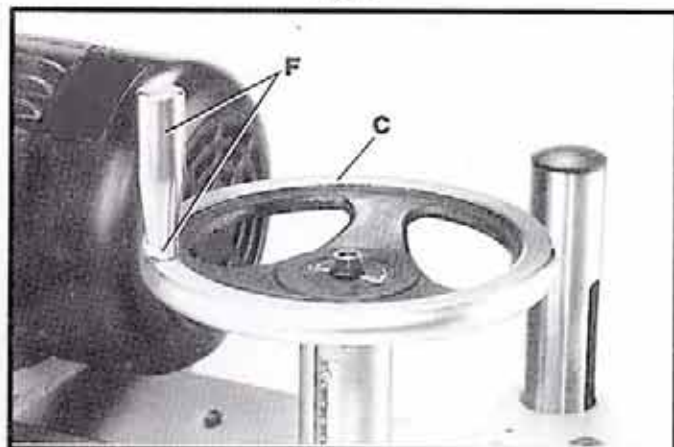

Fig. 9
5. Assemble handle (F) Fig.9, to handwheel (C) as shown.